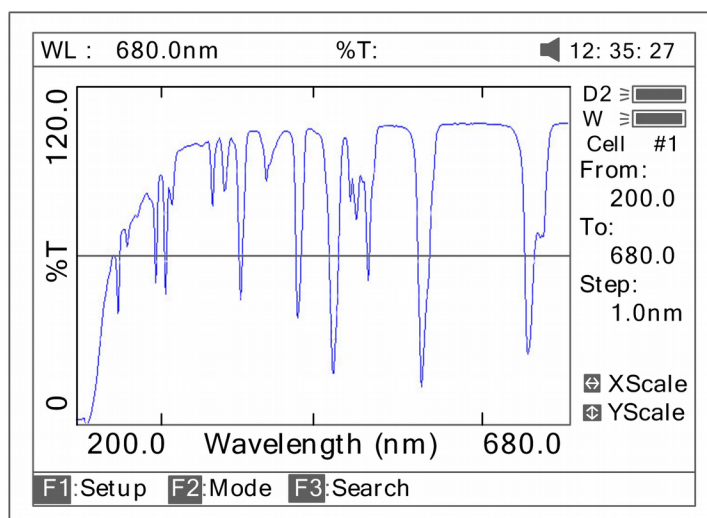

Fig 49
6. Press (F3) to search the Abs/%T value of the scan. There are two ways for you to search (Fig 49).